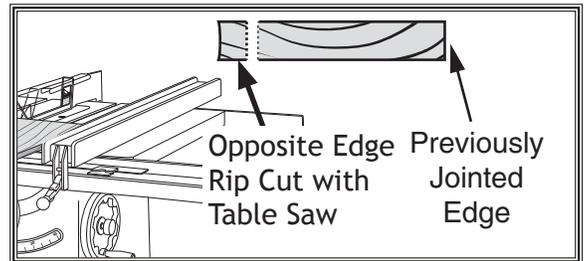

Figure 40. Rip cutting on a table saw.
2. Place jointed edge of 2x4 against table saw fence and rip cut just enough off opposite side to square up two edges of the 2x4, as shown in **Figure 40**.